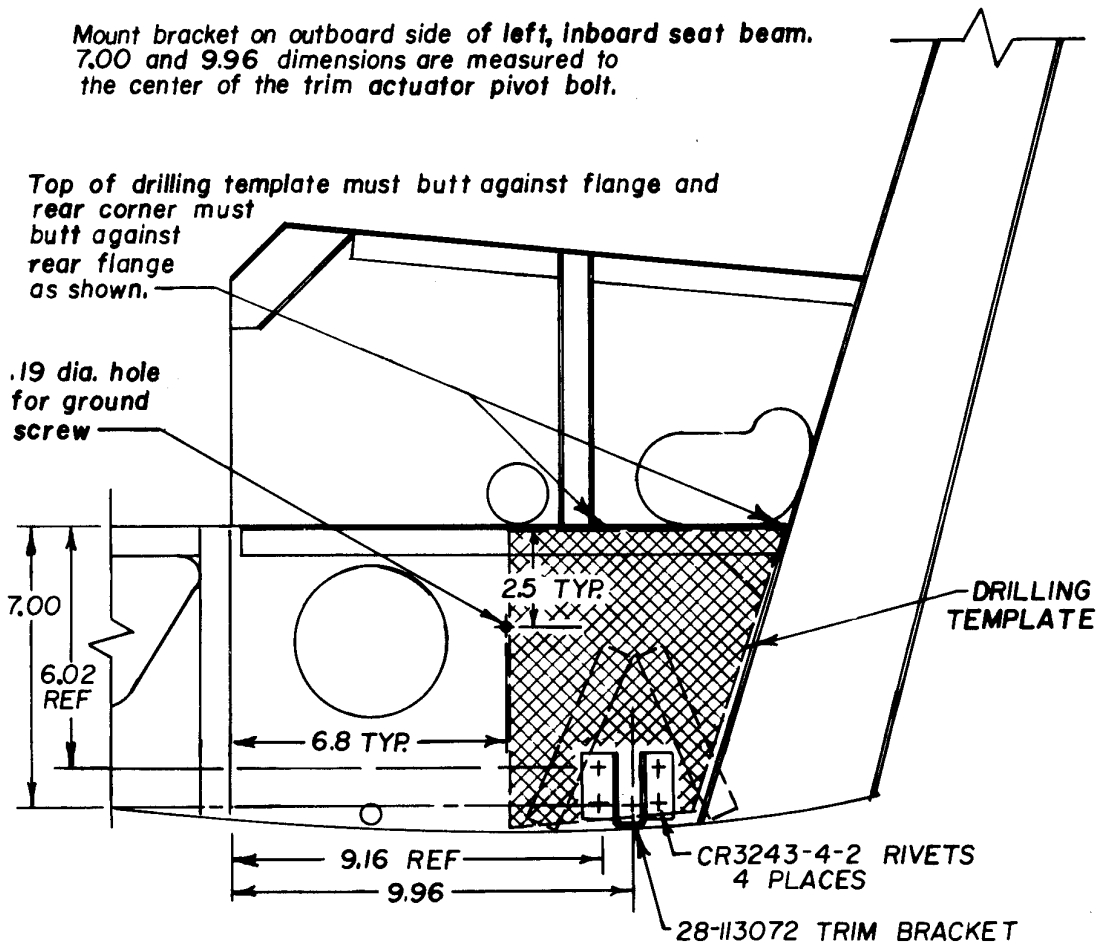

FIGURE 5 - Trim Actuator Bracket Location on Left Inboard Seat Beam
1. Position the drilling template from Section I as shown in Figure 5.
4. Drill a 3/16 inch hole above and forward of the bracket, as shown in Figure 5. (This hole will be used to attach the ground wire.)